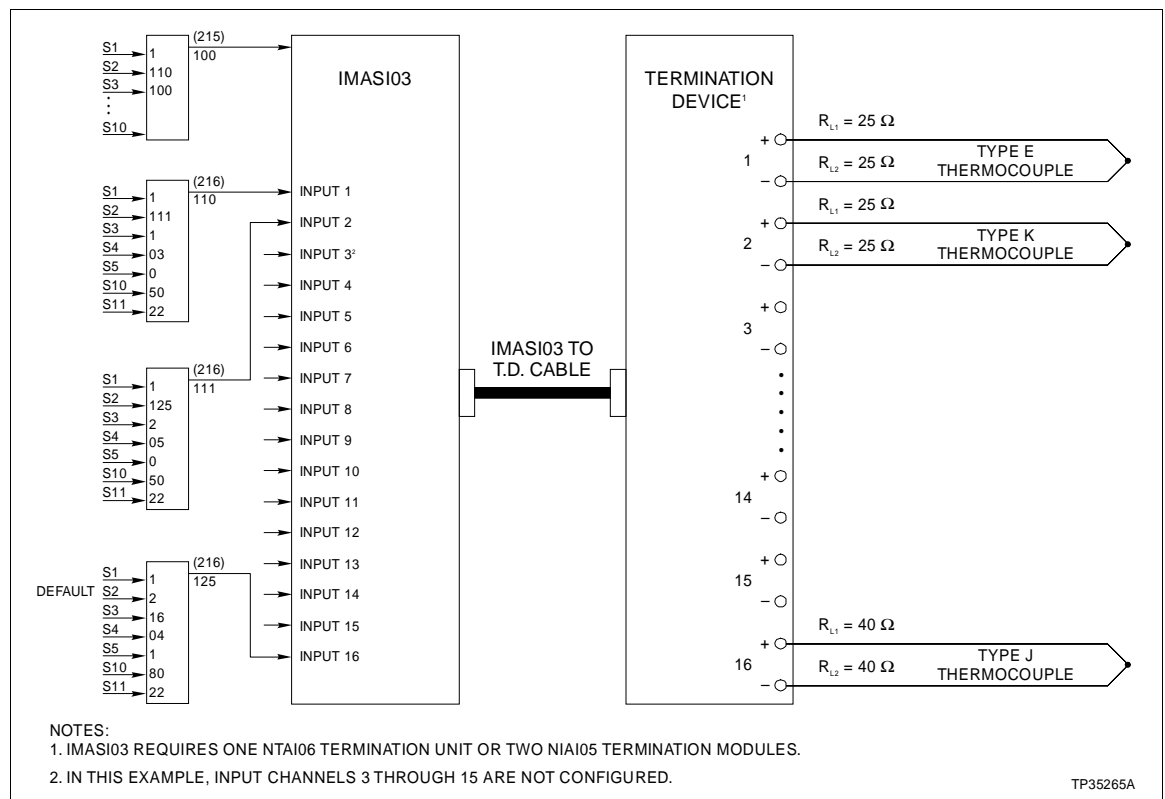

Figure C-1. Local Cold Junction Compensation
- S3** This specification contains the block address of the cold junction reference temperature used for compensation of thermocouple inputs. S3 should refer to the function code 215 output block if the built-in cold junction reference is used (see Figure C-1). The value of the function code 215 output block is in degrees C.